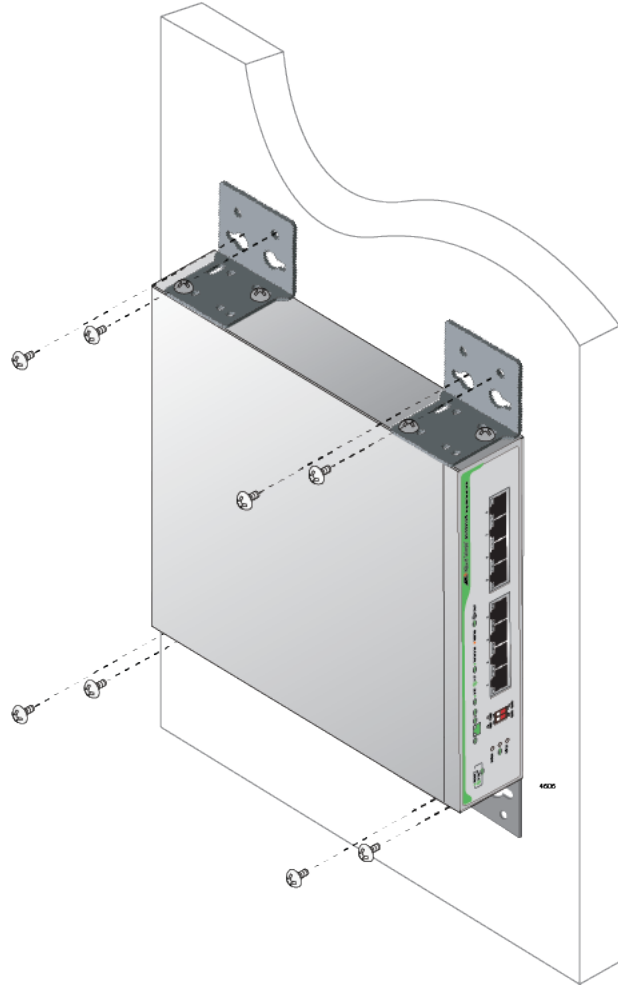

Figure 18. Installing the Switch on the Wall
6. While another person holds the switch at the wall location, secure the switch to the wall using the eight wall mounting screws. See Figure 18 on page 45.